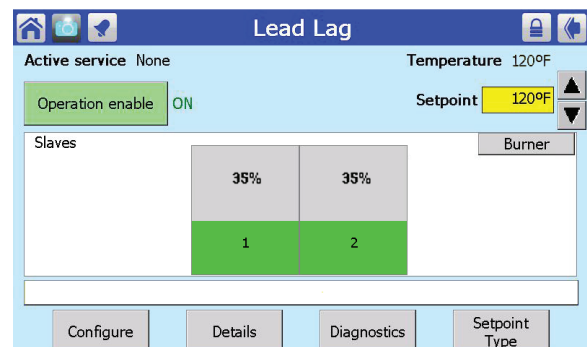

Fig. 112 – Lead/Lag Master Screen
2. Press the button for Lead Lag Master. Fig. 112 shows the screen that follows.